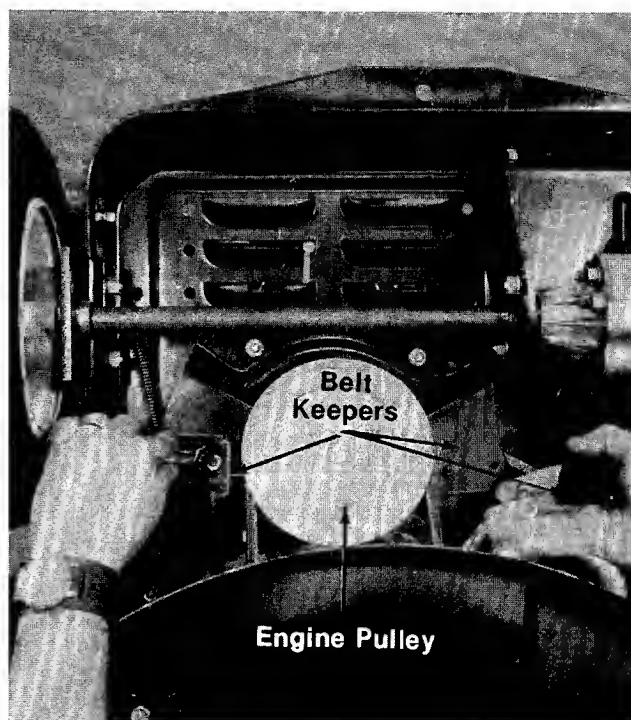

FIGURE 17. REMOVAL OF BELT KEEPERS
2. Remove two belt keepers at the engine pulley. See figure 17.